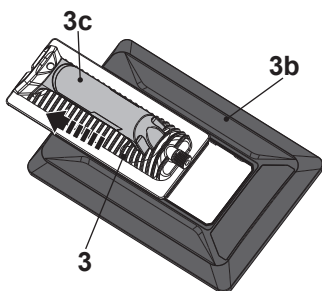

Fig. 3
- > Grasp the steam plate handle (3c) and slide the steam plate (3) out of the track of steam plate apron (3b) (Fig. 3).